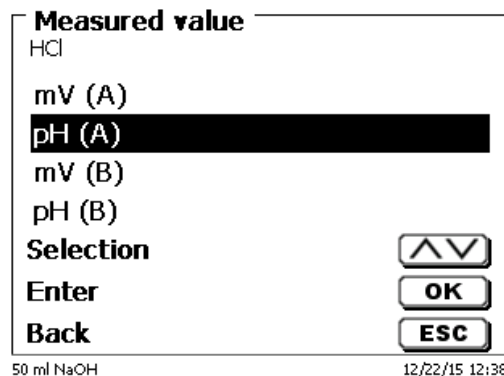

Fig. 121
The measurement speed and the titration end differ again as a function of the respective titration mode. The «**Measured value**» is the first selection to be made, e.g. «pH (A)» (Fig. 121).